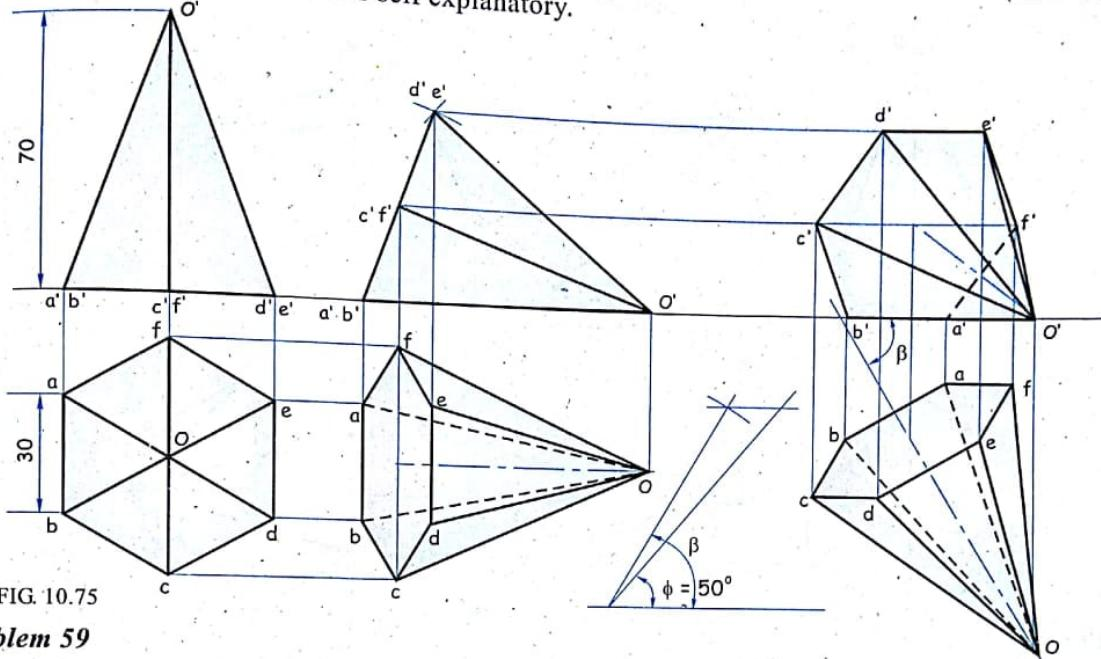

FIG. 10.75
**Solution :** Refer figure 10.75. It is self explanatory.